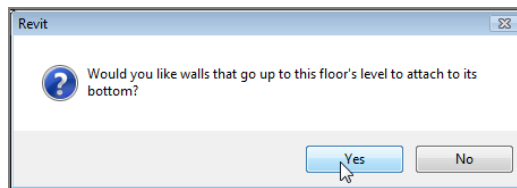

FIGURE 6.28: Click Yes to attach the walls to the floor's bottom.
6. Revit begins asking you questions. First it asks whether you want to attach the walls that go up to Level 2 to the bottom of the floor. You *do* want to do this; this cuts the interior walls down to meet the bottom of the floor. Any change in the floor's thickness will alter the tops of the wall. Click Yes, as shown in Figure 6.28.